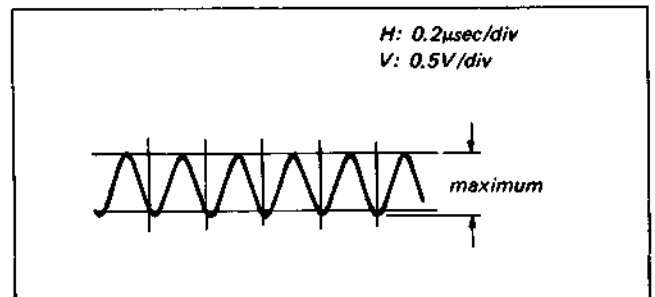

Fig. 4-32. Carrier filter adjustment
- (1) Supply the VTR with the colour bar signal and set up the E-E mode.
- (2) Connect the oscilloscope to TP18 (pin 24 of IC2).
- (3) Adjust T8 and T9 for maximum signal level. (Fig. 4-32).